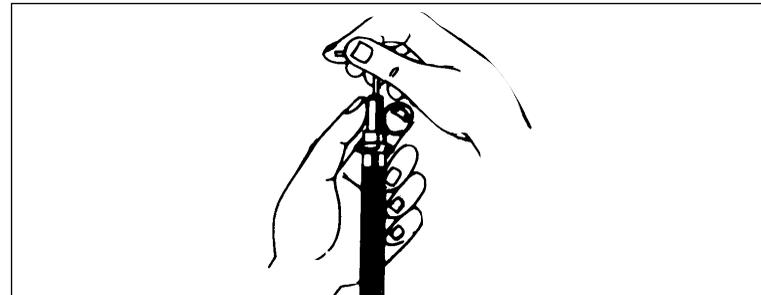

Figure 4: Pipette Volume Adjustment
1. Insert the provided allen key into the push button end of the pipette. (See Figure 4)